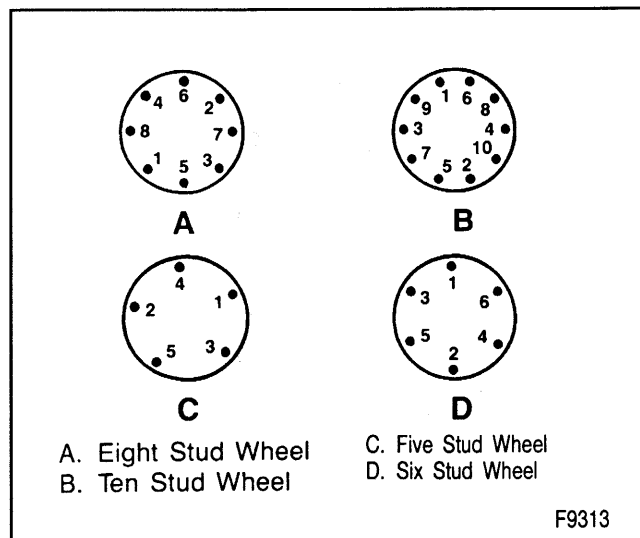

Figure 7—Wheel Nut Tightening Sequence
- Tighten evenly and alternately to avoid excessive runout (figure 7).